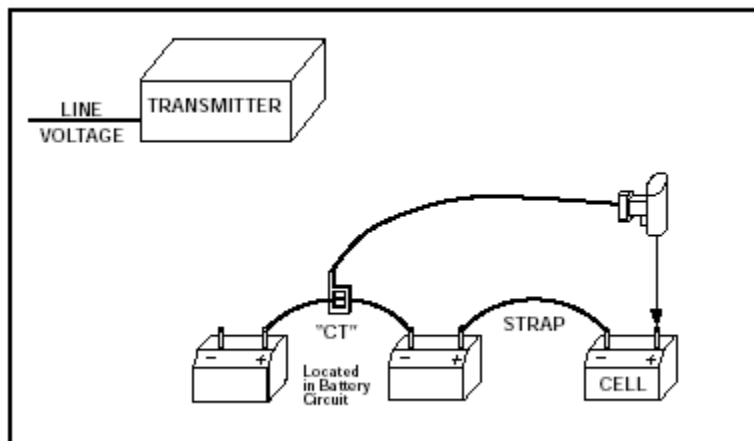

Figure 1
7. The display tells you to connect the “CT”, then measure the RIPPLE CURRENT flowing in the battery circuit. To store the ripple current measurement, pull the trigger. Refer to Figure 1.